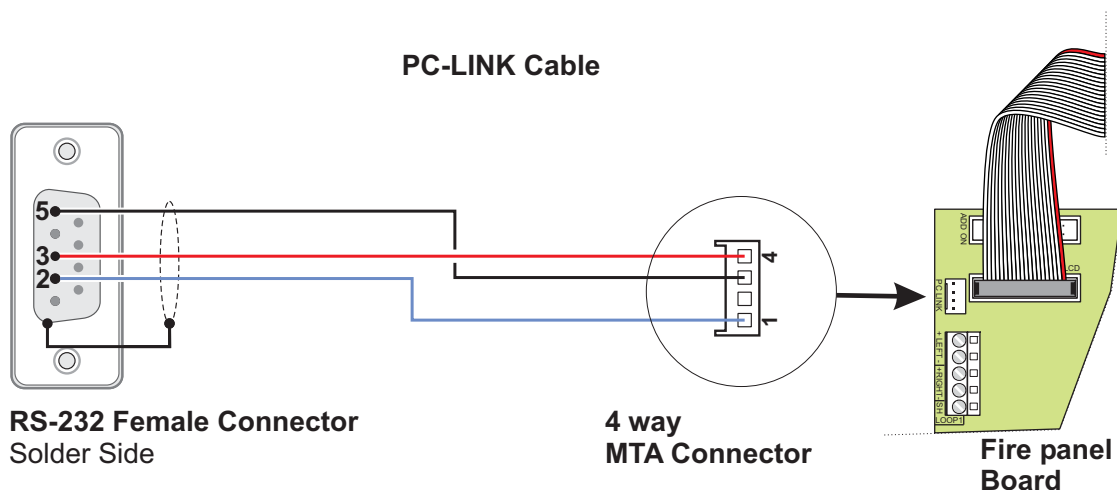

Figure 15 Schematic diagram of the PCLink cable.
- Connecting the control panel in local: connect the PCLINK connector of the control panel (see Figure 3, item 40) to a serial port of the PC using the PCLINK cable (accessory item, see Figure 15) or use the USB socket of the control Panel (see Figure 3 item 26) and a USB cable (Type A-A) or the USB cable **USB5M** (508.032.037) (length 5 m.).